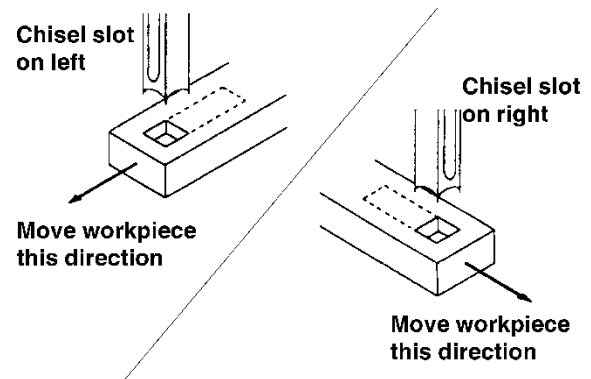

Figure 11-1
6. **IMPORTANT:** Set the slot in side of chisel to the *left* or *right* if workpiece is to be moved laterally, and *front* or *back* if it is to be moved from front to back. The workpiece should be moved so that the chisel slot is releasing chips into the already-cut part of the workpiece (see Figure 11-1).
6. After the first cut, move workpiece along for each successive cut. The direction of movement must allow chips to clear freely. Move workpiece so that chisel slot is releasing chips into the already-cut part of the workpiece (Figure 11-1).